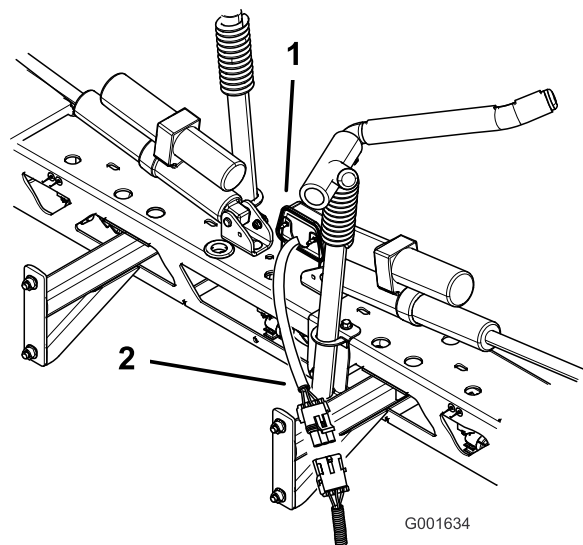

Figure 39
7. Connect the tail light connector on the wire harness to the tail light (Figure 39).